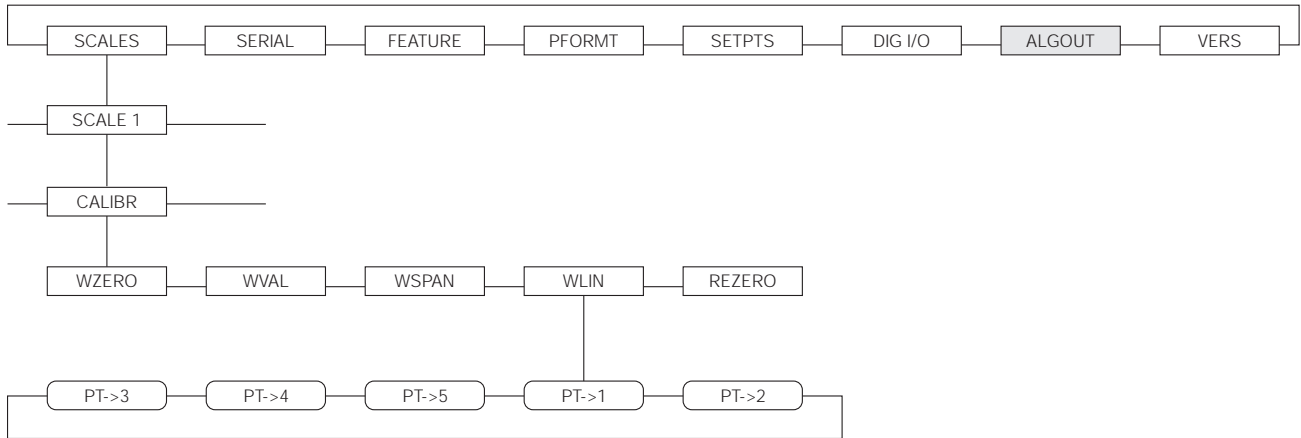
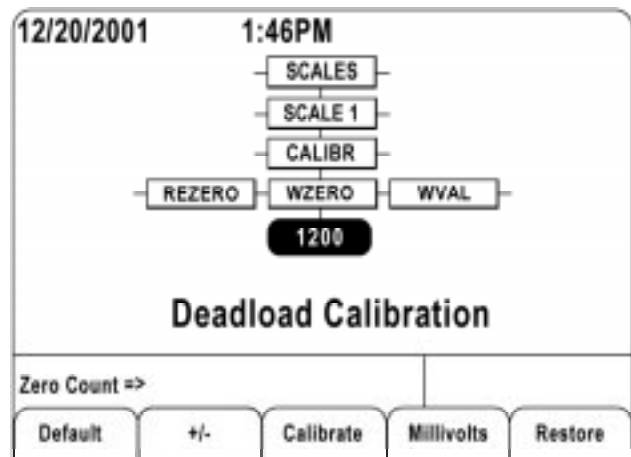

Figure 4-1. Calibration (CALIBR) Submenu
Figure 4-2. WZERO Calibration Display
The *CALIBR* submenu (under the *SCALES* menu, see Figure 4-2) is used to calibrate the *920i*. The zero, span, and linear calibration point displays provide a set of softkeys used specifically for calibration procedures:
2. With the *SCALES* menu highlighted, press the down key, then select the scale to be calibrated. Press down again (*GRADS* parameter highlighted), then press left to highlight the *CALIBR* submenu (see Figure 4-1). Press down to go to zero calibration (*WZERO*). See Figure 4-2 on page 40.